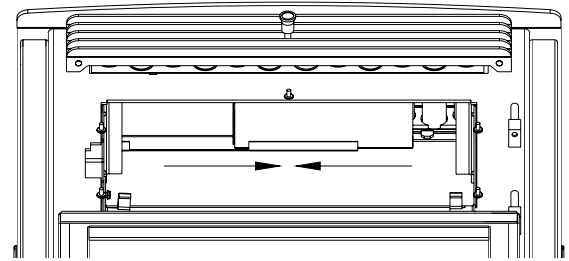

Figure 43
- Open the door and remove the baffle from the firebox. Slide each side of the baffle toward the center to remove(Figure 43). Close the door.
- b. **Baffle**: Remove the baffle and scrape off ashes. Slide both sides toward the center to remove the baffle(Figure 43) Use a vacuum is necessary. In some cases, you will need to remove creosote on the baffle, which can accumulate rapidly under certain conditions. A small wire brush can be used. It is important to remove this creosote because it is highly combustible and could cause premature corrosion.